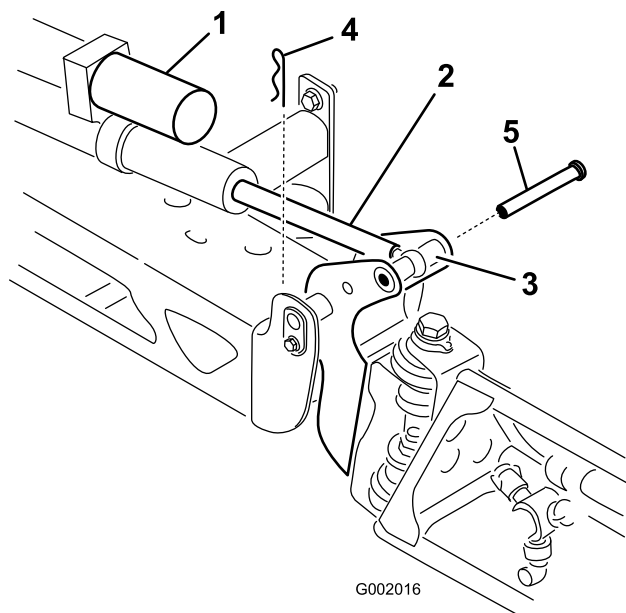

Figure 43
2. Remove the cotter pin from the pivot pin (Figure 43).
3. Lift up on the boom and remove the pin (Figure 43). Slowly lower the boom to the ground.
6. Raise the boom to align the pivot with the actuator rod. While holding the boom, insert the pin through both boom pivot and actuator rod (Figure 43).